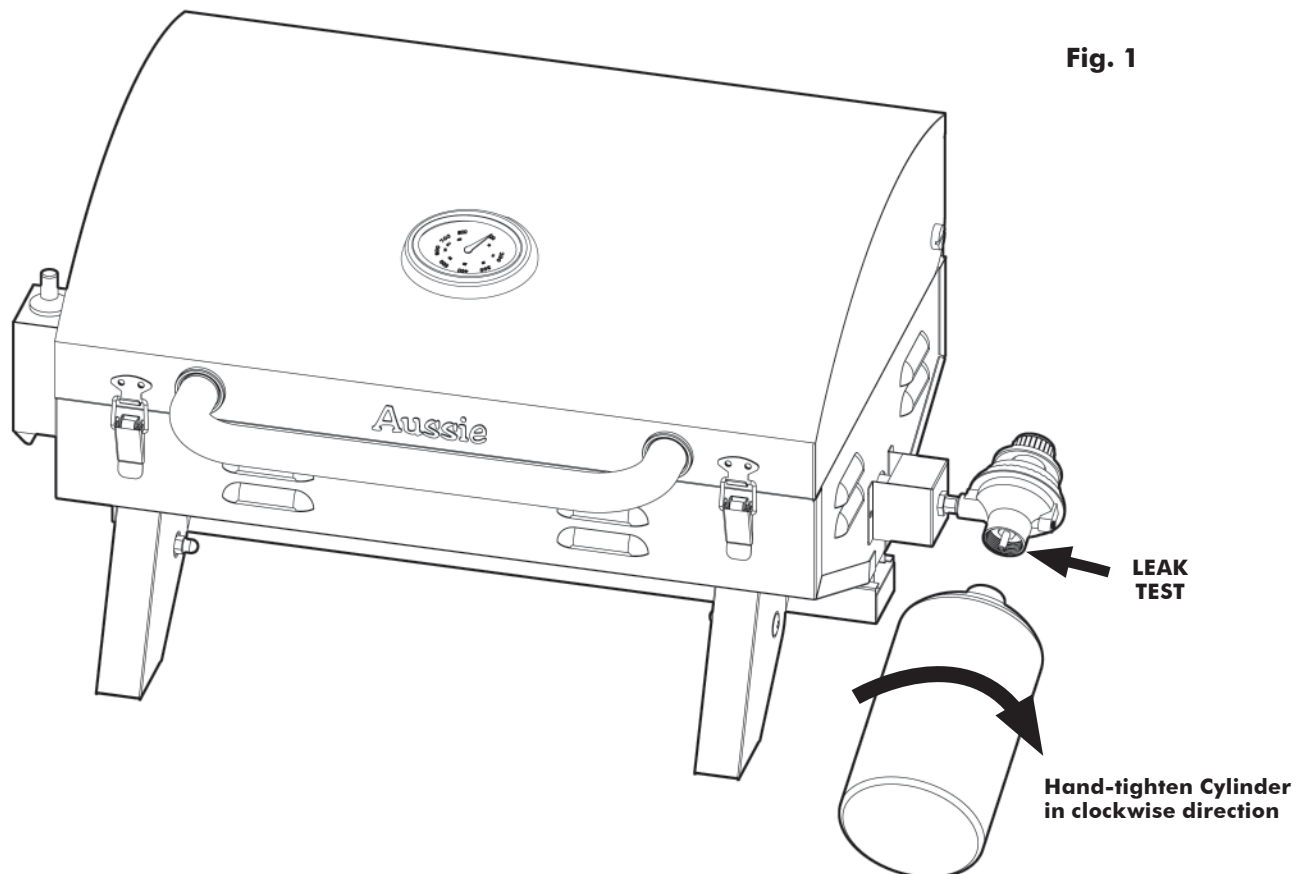

Fig. 1
4. Insert the 1lb. LP Gas cylinder into the threaded hole in the underside of the regulator. Turn the cylinder clockwise until firmly seated. Hand tighten only. (Fig. 1)